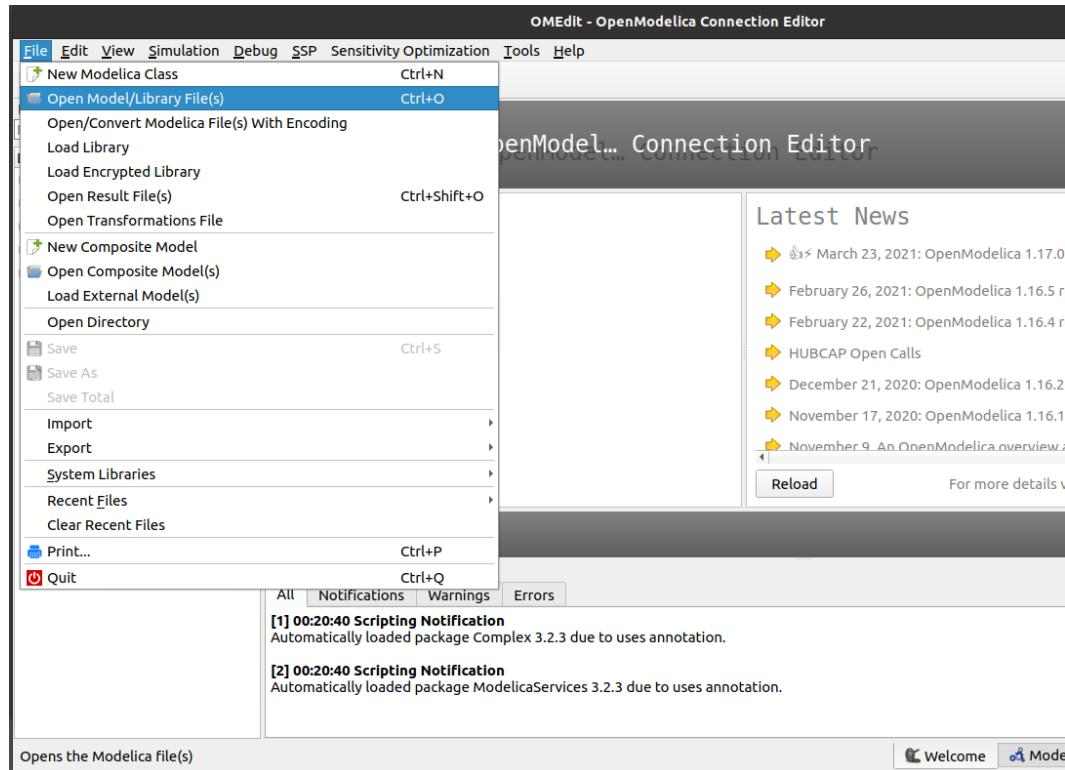

Figure 3.38: Opening a model in OMEdit
The files or models in OpenModelica have ‘.mo’ extensions. Though there are several ways to simulate or run an OpenModelica model, we will execute the models by utilizing the user interface of OMEdit. To open a model in OMEdit, go to the menu bar of OMEdit and click on File -> Open Model/Library File(s), as shown in Fig. 3.38. Then, select the desired model (with ‘.mo’ extension) and click Open. The names of tabs in this book have been mentioned according to OpenModelica 1.17.0. You might observe a bit of difference in these names while working with other versions of OpenModelica.
2. After launching, we have to load OpenModelica-Arduino toolbox. To do so, go to the menu bar of OMEdit. Click on **File** and then click on the **Open Model/Library File(s)** option as shown in Fig. 3.38.